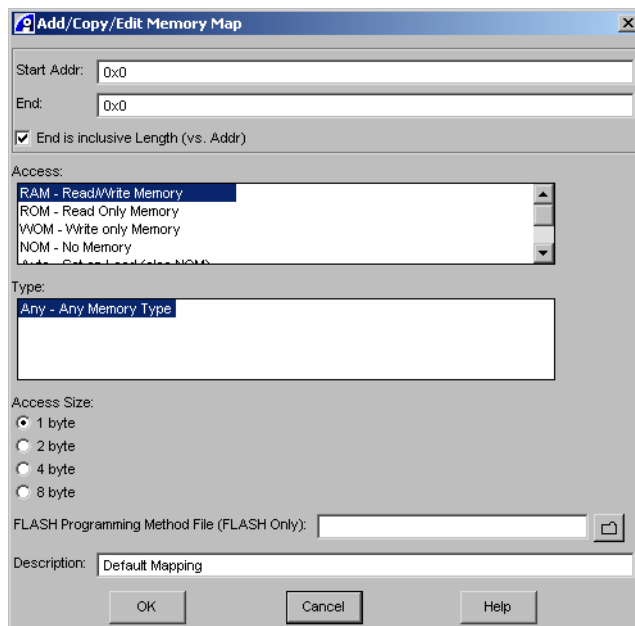

Figure 6-1 Add/Copy/Edit Memory Map dialog box
2. Select **Add or Copy Map Entry...** to display the Add/Copy/Edit Memory Map dialog box, shown in Figure 6-1.
Displays the Add/Copy/Edit Memory Map dialog box, shown in Figure 6-1 on page 6-5, where you can create a new map entry based on an existing entry.
Displays the Add/Copy/Edit Memory Map dialog box, shown in Figure 6-1 on page 6-5, where you can edit a map entry.
2. Select the option **Edit Map Entry...** to display the Add/Copy/Edit Memory Map dialog shown in Figure 6-1 on page 6-5.